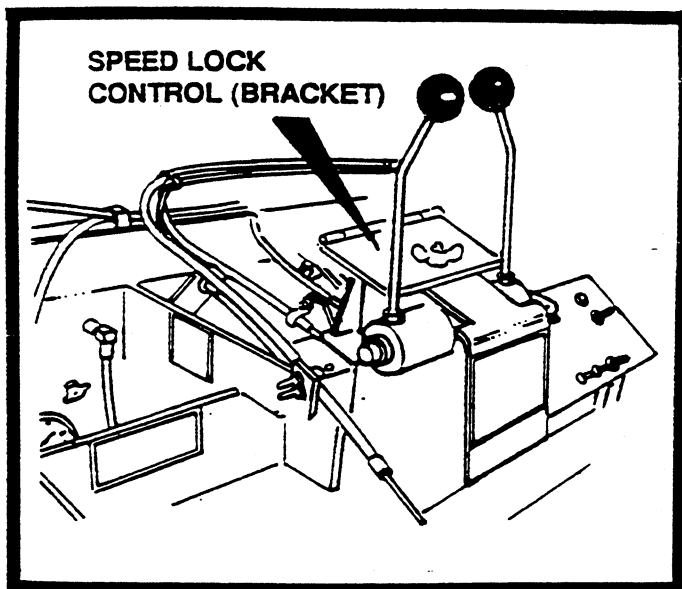

FIGURE 7
6. When stopping, move both steering levers to the neutral position. See figure 7.